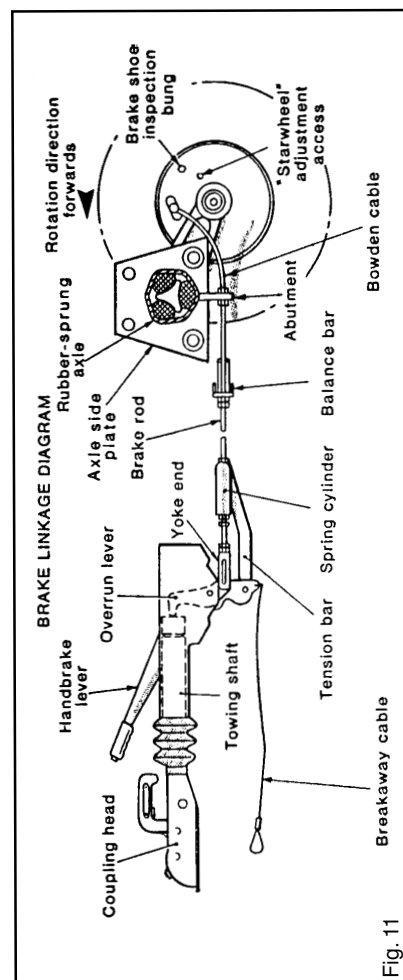
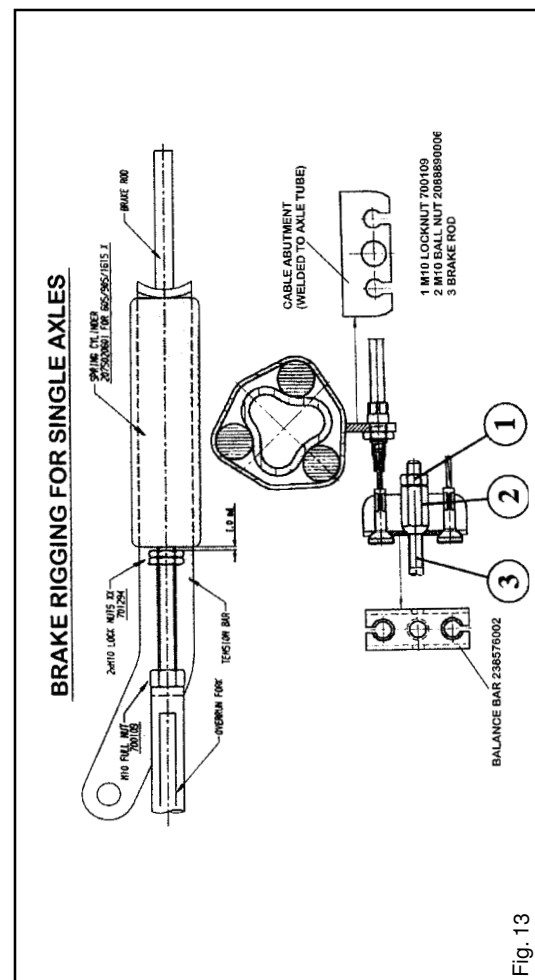

Fig. 11
Fig. 13
1. Ensure the towing shaft with coupling head is pulled **FULLY FORWARD**. (Fig. 11).
2. Release the handbrake to the **FULLY OFF** position. If the handbrake will not go down the whole way because of the fairing or any other obstruction; then the fairing must be cut away and/or the obstruction removed to achieve this desired position. It will not be possible to set up the braking system properly when the handbrake is not in the **FULLY OFF** position. (Fig. 11).
4. Remove the inner plastic bung from the backplate to expose the "starwheel" adjuster access. (Figs. 11 & 12).
7. Check the adjustment at the end of the brake cable where it is secured to the abutment (bracket), welded to the centre of the axle. When the inner cable is pulled out it should extend between 5 and 8 mm. (Fig. 13). (On tandem axles a double abutment (bracket) is fitted to the front axle ONLY).
10. Ensure the balance bar (compensator) is being pulled evenly (Figs. 11 & 13). Excessive movement to this bar (double on tandem axles) would indicate possible incorrect adjustment (if appropriate, repeat step No. 7 - Fig. 13).
12. Remove the slack in the brake rod by adjusting the long ball nut, rear of the balance bar, ensuring the overrun lever makes contact with the end of the towing shaft. Note! Over adjustment to the long ball nut (Fig. 13/Item 2) could induce movement of the inner brake cable, reducing the effective clearance of the brake shoes. If the overrun lever will not make contact, it is possible the two lock nuts, forward of the spring cylinder, are incorrectly adjusted. Loosen the nuts and adjust brake rod as above (Figs. 11 & 13).
13. Adjust the two locking nuts, forward of the spring cylinder (Fig. 11), (on some chassis a single Nyloc nut is used) to give 1 mm of clearance on the spring cylinder. This cylinder (the energy store for the handbrake operation) must be able to rotate **ONLY**, not slide on the brake rod. (Fig. 13). (If the overrun assembly is fitted with a gas